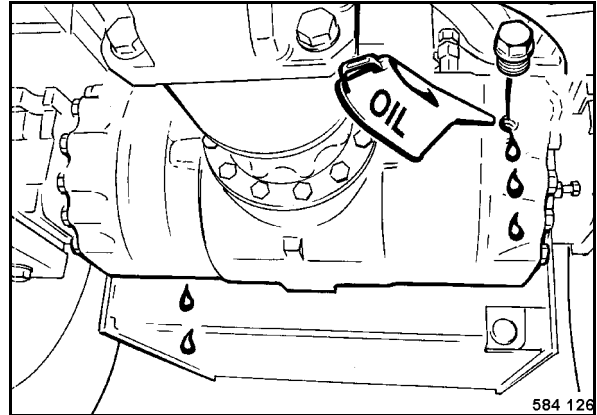

Fig. 129
- Unscrew the oil level inspection plug (Fig. 129) and check the oil level.